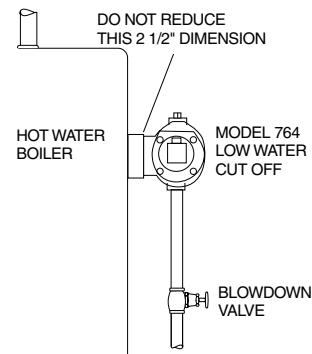

Figure 1
- a. See figure 1. The 2 1/2" (65mm) tapping on the boiler has to be above the minimum safe operating level, as determined by the boiler manufacturer. On steam boilers, make sure the line on the casting is above the lower gauge glass nut. **NOTE:** Do **not** reduce the 2 1/2" (65mm) tapping, as this would compromise low water protection.